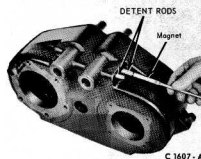

FIG. 9—Removing Detent Rods
20. Remove the detent rods (Fig. 9).